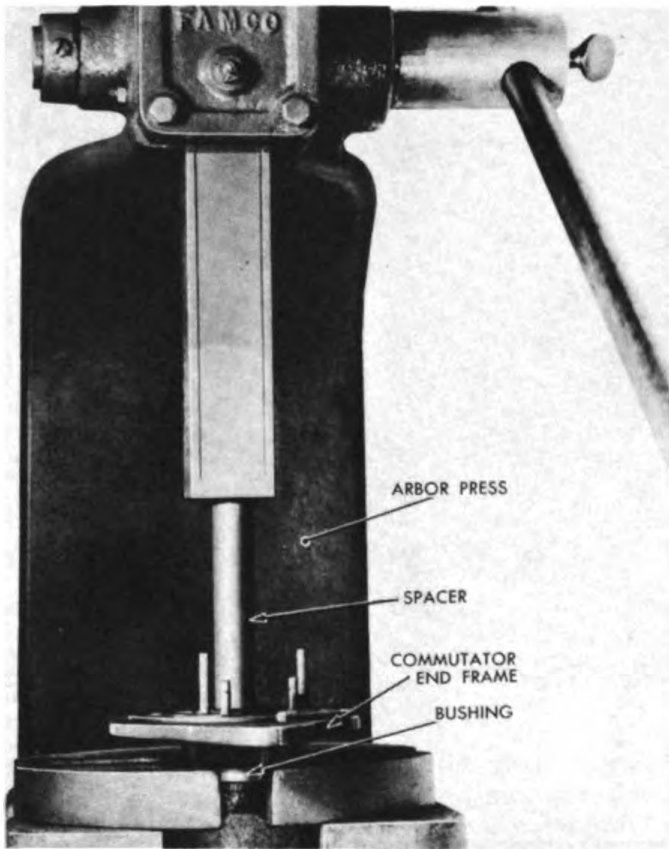

Figure 261. Pressing out Bushing from Commutator End Frame.
- b. If necessary, the bushing may be pressed out in an arbor press, see figure 261, after the following disassemblies have been made c, d, and e.